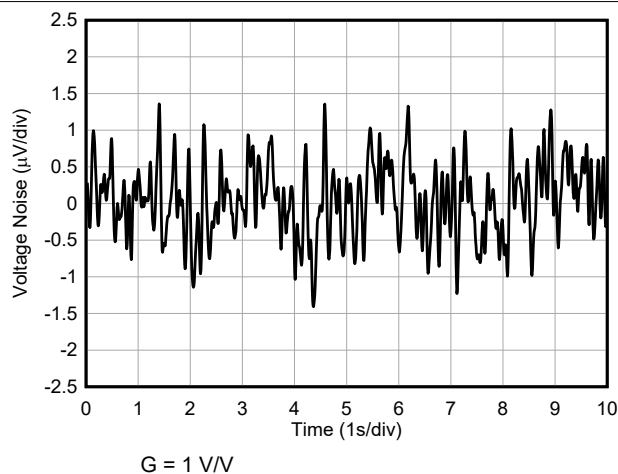

Figure 7-28. 0.1-Hz to 10-Hz RTI Voltage Noise
0.1-Hz to 10-Hz RTI Voltage Noise, $G = 1$	<a href="#">Figure 7-28</a>